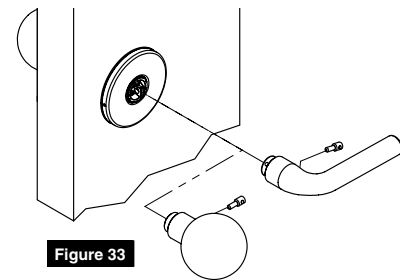

Figure 33
4. Install inside lever or knob by inserting dowel screw. (Figure 33)